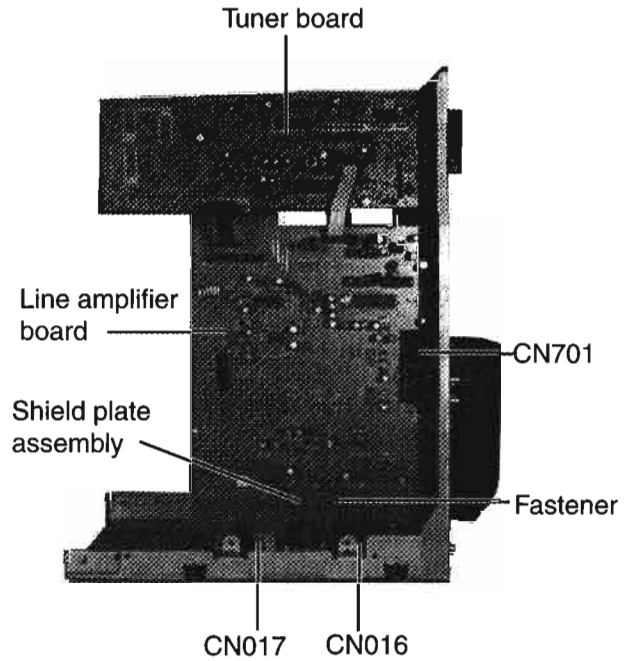

Fig. 11
6. Disconnect the connector wire connected to the power amplifier board from connectors CN701 on the line amplifier board.(See Fig. 11)
7. Disengage the fastener from shield plate assembly and line amplifier board.(See Fig. 11)
8. Disconnect the two connectors connected to the power supply board from connectors CN016 and CN017 on the line amplifier board.(See Fig. 11)